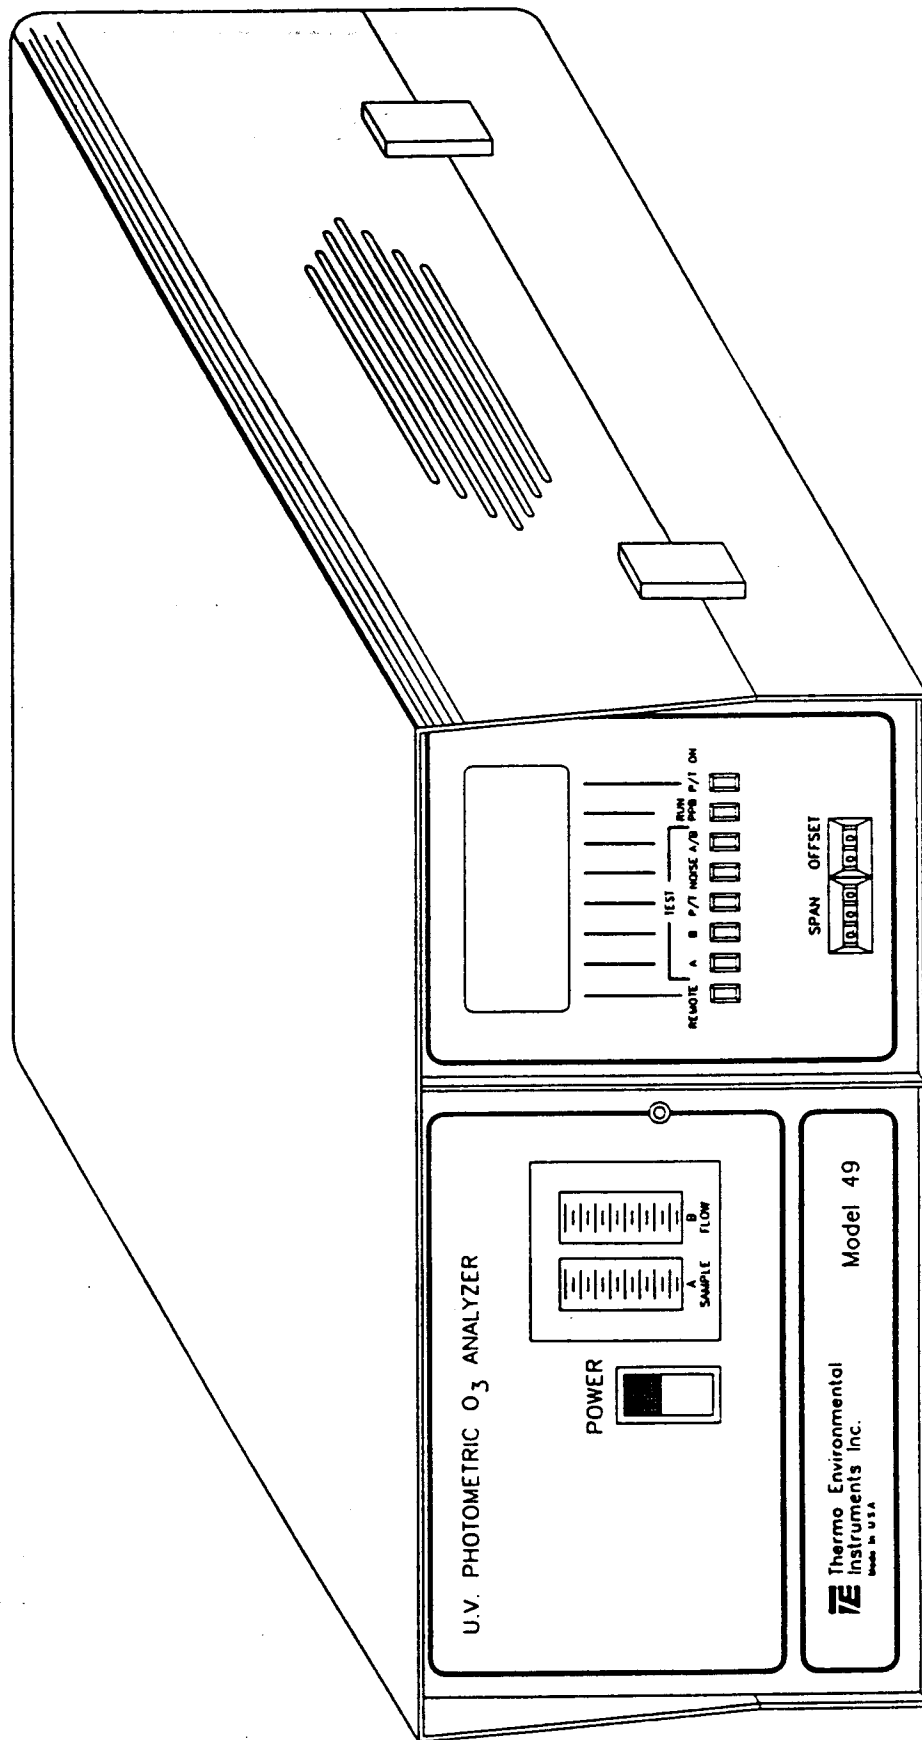

Figure I-1: Model 49 Front Panel Controls
Thermo Environmental Instruments' Model 49, time-shared dual cell U.V. Photometric Ambient Ozone Instruments (Figure I-1) are capable of measuring ambient level ozone concentration on a continuous, real-time basis.
1. **MODEL 49 (Figure I-1)**
2. **MODEL 49-003 (Figure I-1)**
### DESCRIPTION OF CONTROLS (FIGURES I-1 AND I-2)